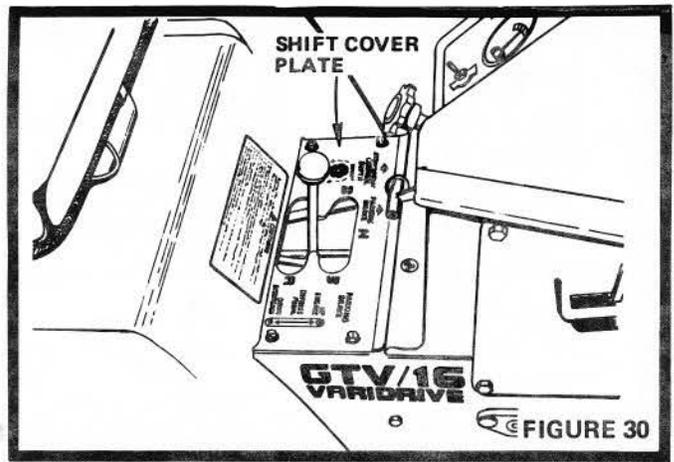

FIGURE 30
- Remove (4) Hex Washer Head Tapping Screws from Shift Cover Plate (Fig. 30) located on top tractor frame and remove the plate.